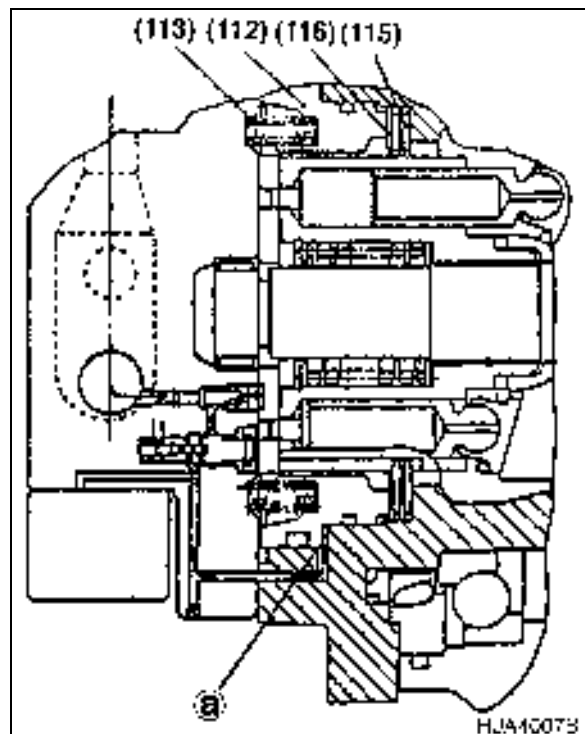

Figure 5
18. Bolt up two halves of motor casing (301 and 303, Figure 5). Be careful not to lose or damage O-ring. Tighten four 20 mm socket head bolts using a progressive, even rotation. Make sure that all brake springs are fully seated and that valve casing inlet and output ports are correctly matched.